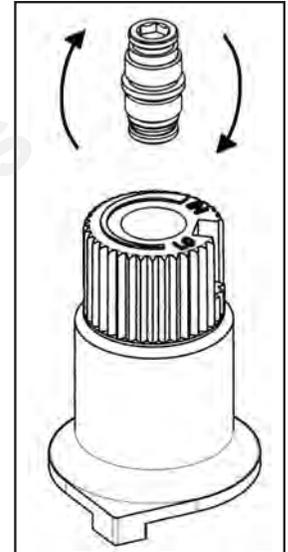

Figure 10: Flip valve screw.
d) Flip the screw (refer to Figure 10).